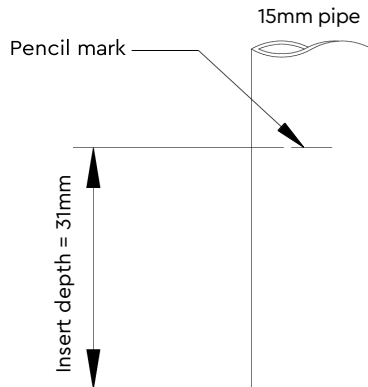

Figure 9
- c. Appropriate plumbing fitting that provides a leak tight connection. Ensure the pipe is free from all score marks and deformities in the area of the insertion depth (Figure 9) and cut the pipe square, removing all burrs and sharp edges to prevent damage to the sealing 'O'-ring.
Prior to inserting pipe into fitting, mark the insert depth on the wall of the pipe with a soft pencil at a distance of 31 mm from the end to be inserted (Figure 9).